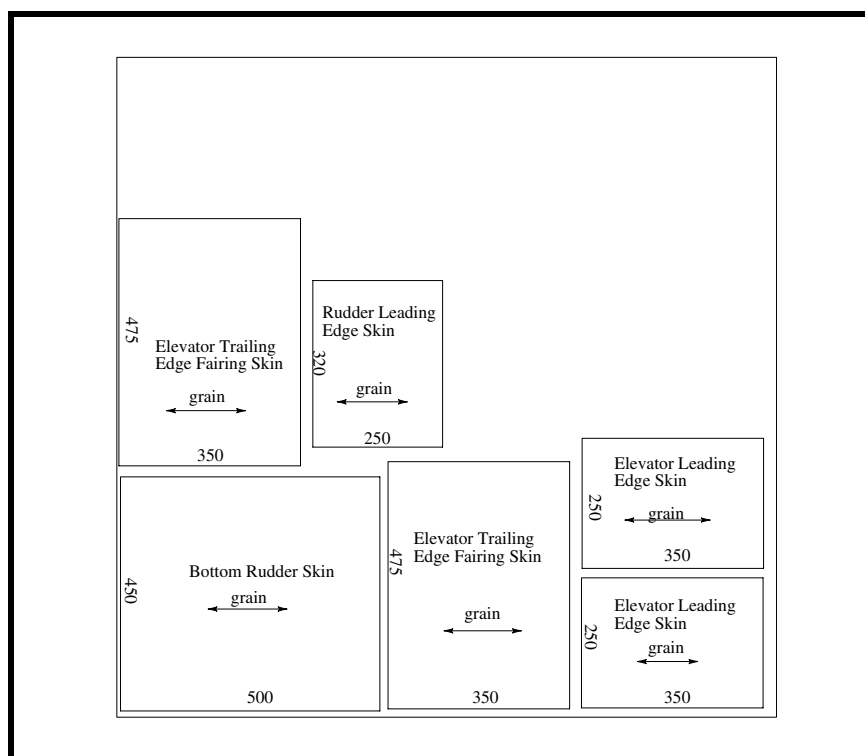

Figure 4
- ❑ Use one 50"x50" sheet of 1.2mm birch plywood and cut in accordance with Figure 4.